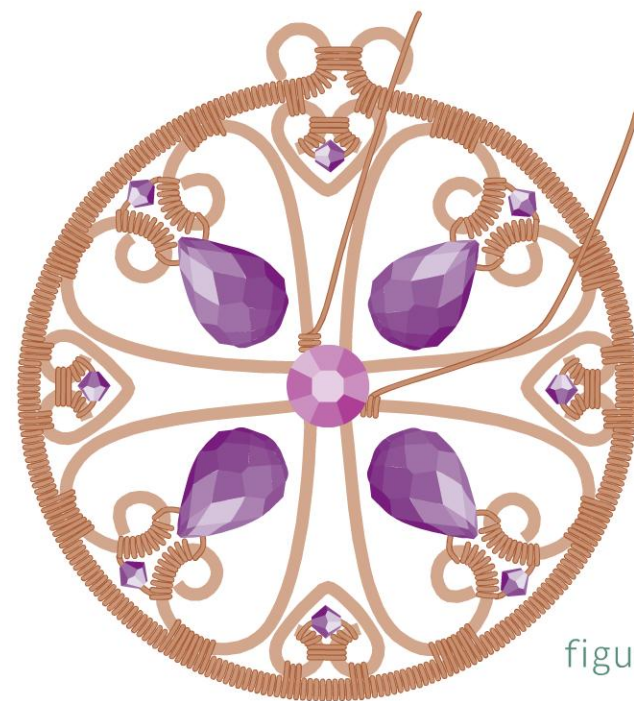

figure 13
- 31** Cut 4' (1.2 m) of 26-gauge wire. Leaving a 2' (61 cm) tail, coil around the tip of one heart frame twice. String the coin bead onto the wire, then coil around the tip of the opposite heart frame twice (Figure 13).